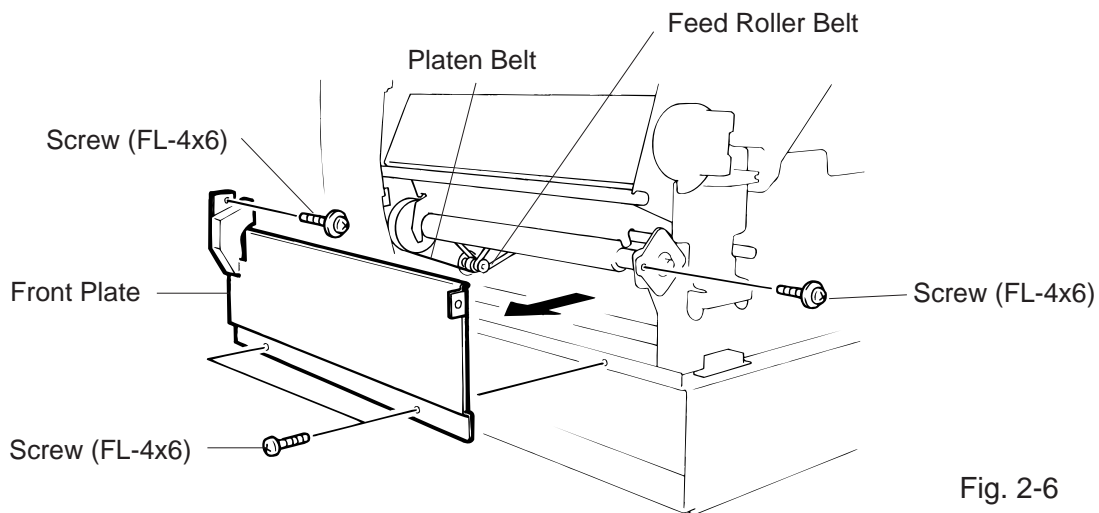

Fig. 2-6
- 1) Remove the front plate. (Refer to Fig. 2-6.)